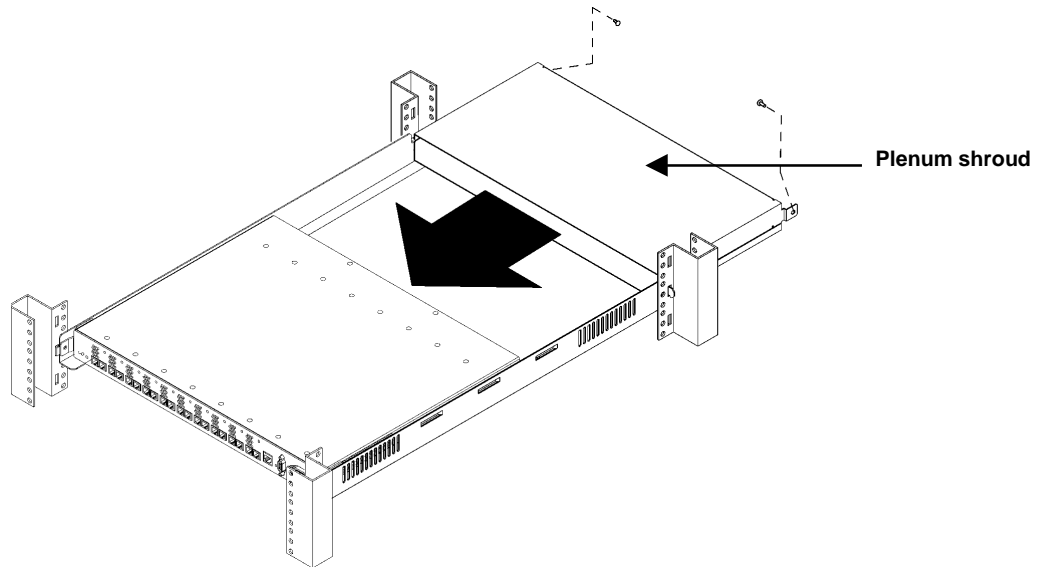

Figure 8. Installing the plenum shroud
- i. Secure the brackets to the posts with 10-32 x .625 machine screws (see figure 8).